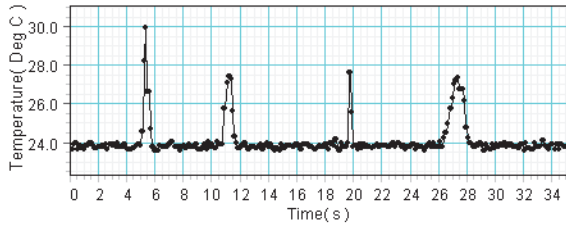

Figure 1.5: People walking past the sensor
- Place the sensor horizontally on a table and start recording data. Display the data on a temperature versus time graph. Walk quickly past the sensor (Figure 1.5).